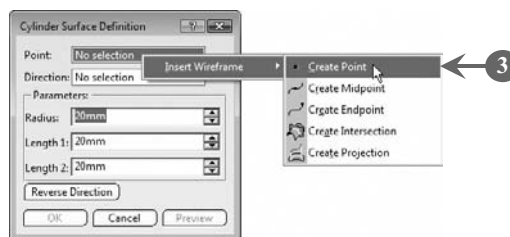

FIGURE 5.47
The **Cylinder Surface Definition** dialog box opens (**Figure 5.47**).
3. *Right-click* inside the **Point** box and *select* the **Insert Wireframe**>**Create Point** option from the context menu to create the center for the cylindrical surface, as shown in **Figure 5.47**: